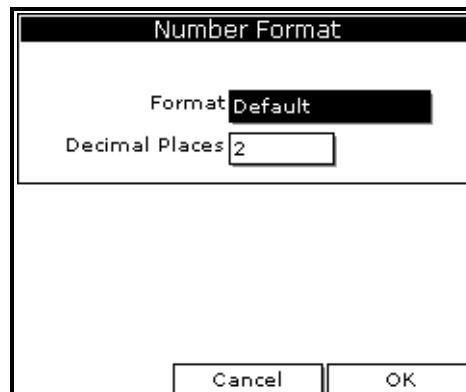

Figure 16: Number Format Window
2. Use the arrow keys to scroll to Format and press [ENTER]. The screen appears similar to Figure 16.